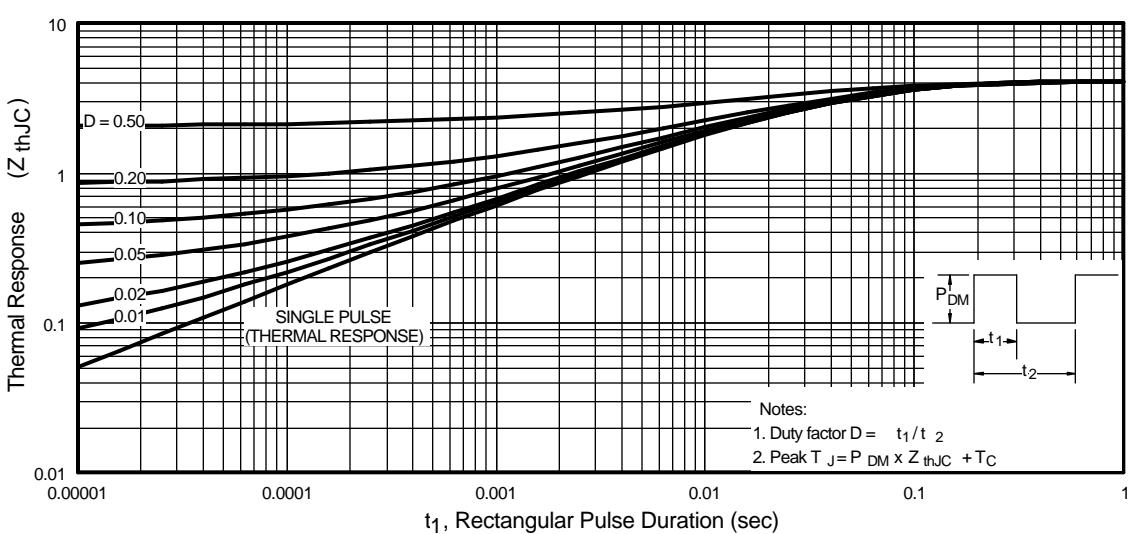

Fig 11. Maximum Effective Transient Thermal Impedance, Junction-to-Case
- ① Repetitive rating; pulse width limited by max. junction temperature. (See fig. 11)
- ② $V_{\text{DD}} = 25\text{V}$, starting $T_J = 25^\circ\text{C}$, $L = 610\mu\text{H}$